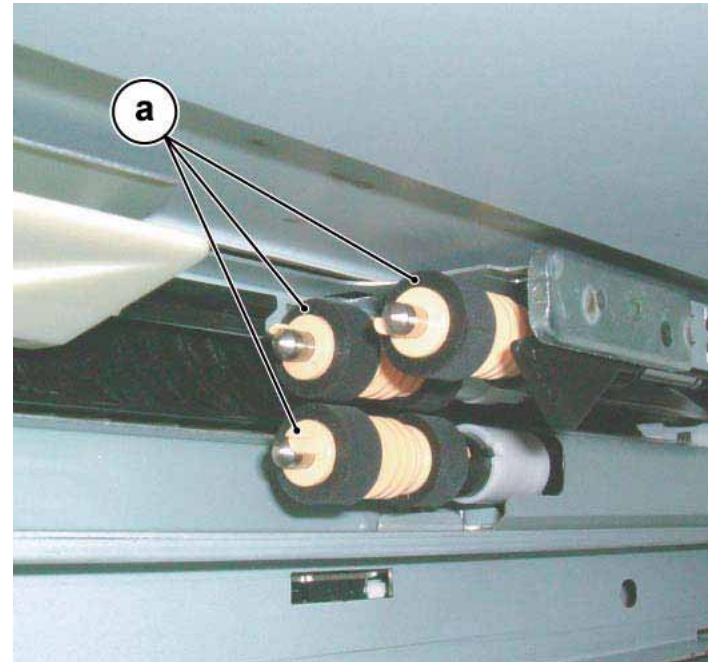

Figure 2 Removing the Feed/Nudger/Retard Rolls
3. Remove the Feed/Nudger/Retard Rolls. Figure 2